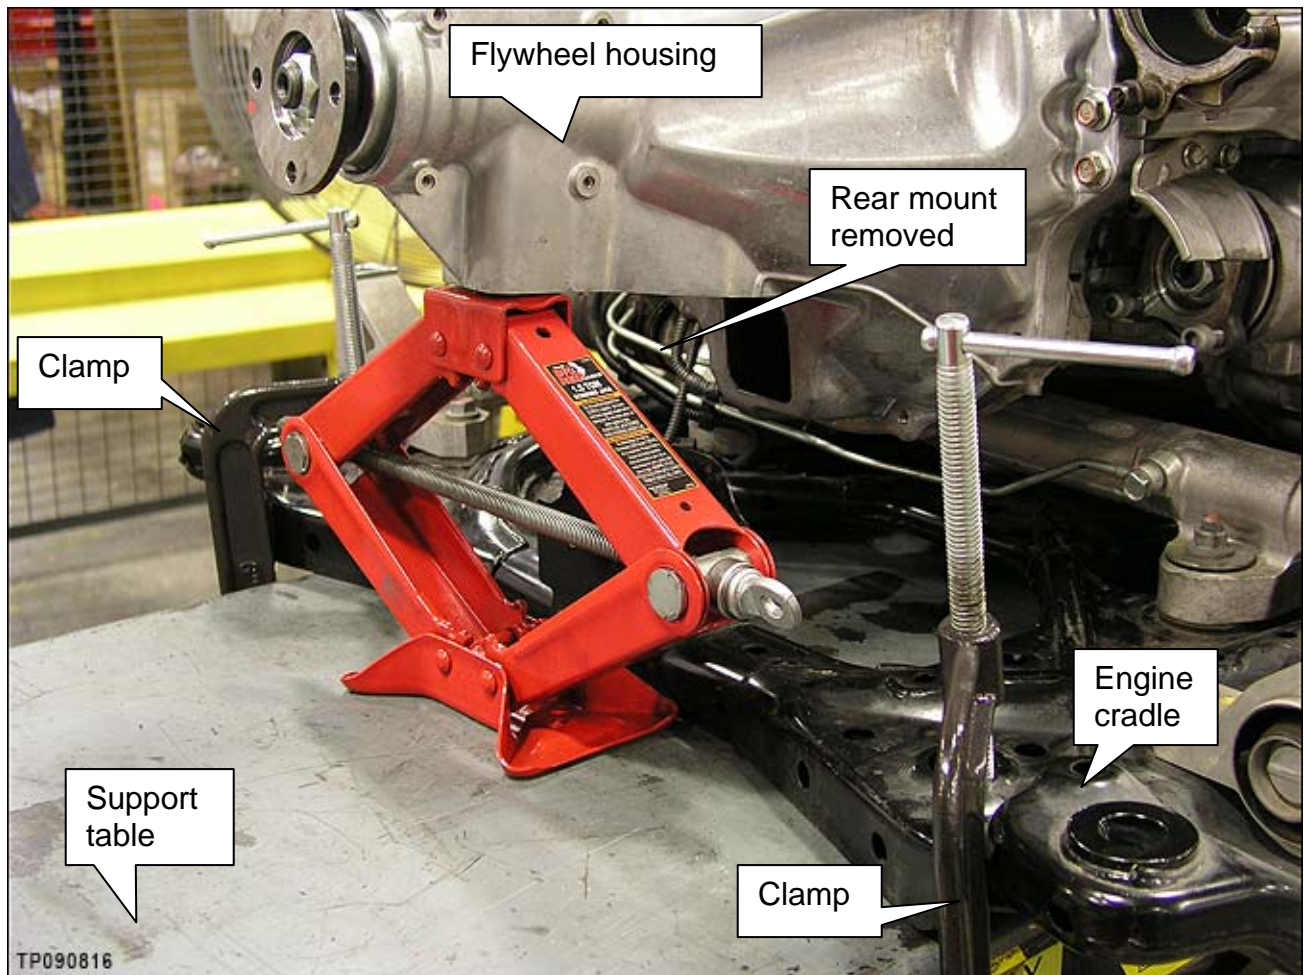

Figure 4
4. Apply clamps to secure the rear of the engine cradle to the support table (see Figure 4).